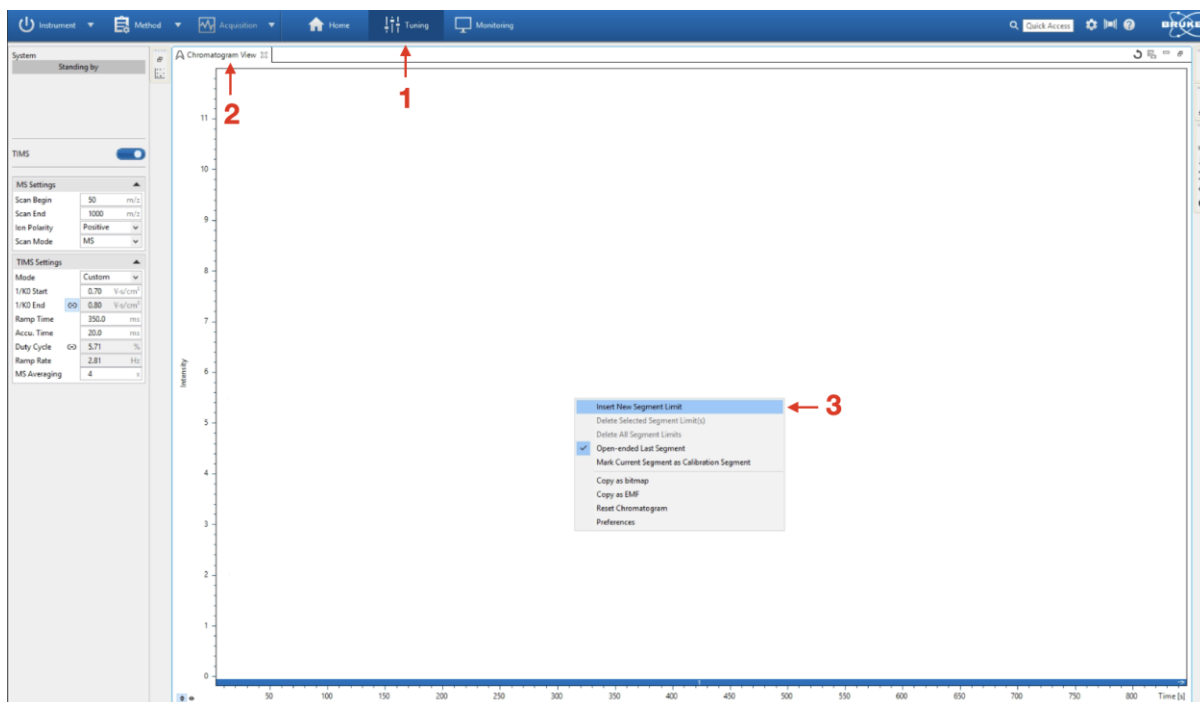

Figure 3 – Creating an IM window in timsControl.
3. **Setting the ion mobility windows in the TIMS instrument software.** Open the desired method (.m file) in timsControl. In the “Tuning” panel (Figure 3 - arrow 1), maximize the “Chromatogram view” (Figure 3 - arrow 2). To add an ion mobility window, right click anywhere on the chromatogram and select “insert new segment limit” (Figure 3 - arrow 3).